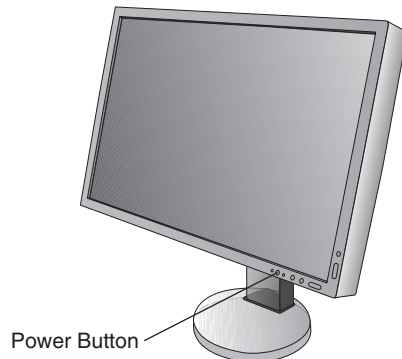

Figure E.1
8. Turn on the monitor by pressing the power button and then the computer (**Figure E.1**).